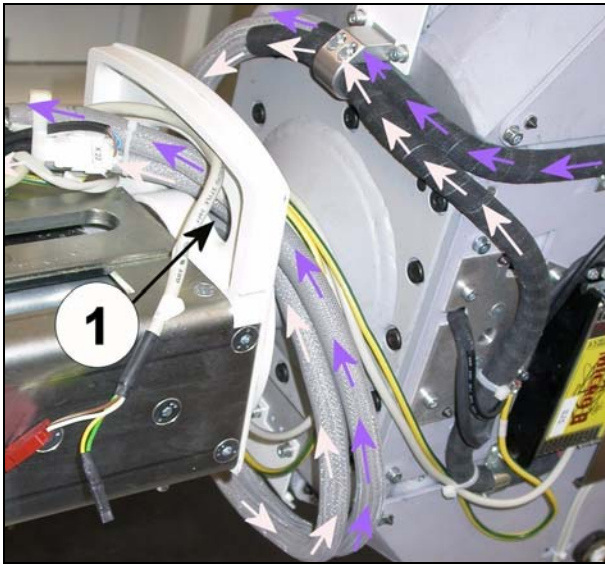
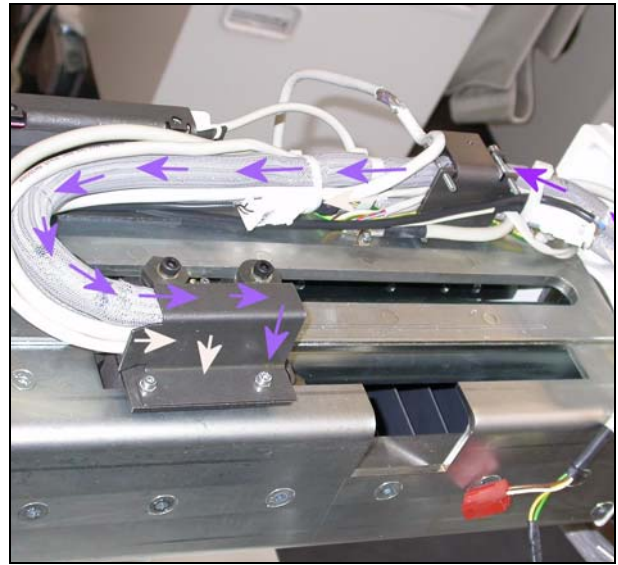

Fig. 4
Fig. 5
Fig. 4 and Fig. 5 show the position of the two cables of the cable module after assembly. When you run the cables and draw them into the horizontal carriage, make sure that the cables do not intersect at any point. To facilitate drawing the cables into the horizontal carriage guide (Fig. 3) start with the largest plug.
- Pull both cables through the recess in the horizontal carriage (1/ Fig. 4). Make sure that the cables do not intersect after assembly.
- Attach the cable module to the flange so that the cables will settle with one turn around the angulation axis. Make sure that the cables do not intersect (Fig. 4).